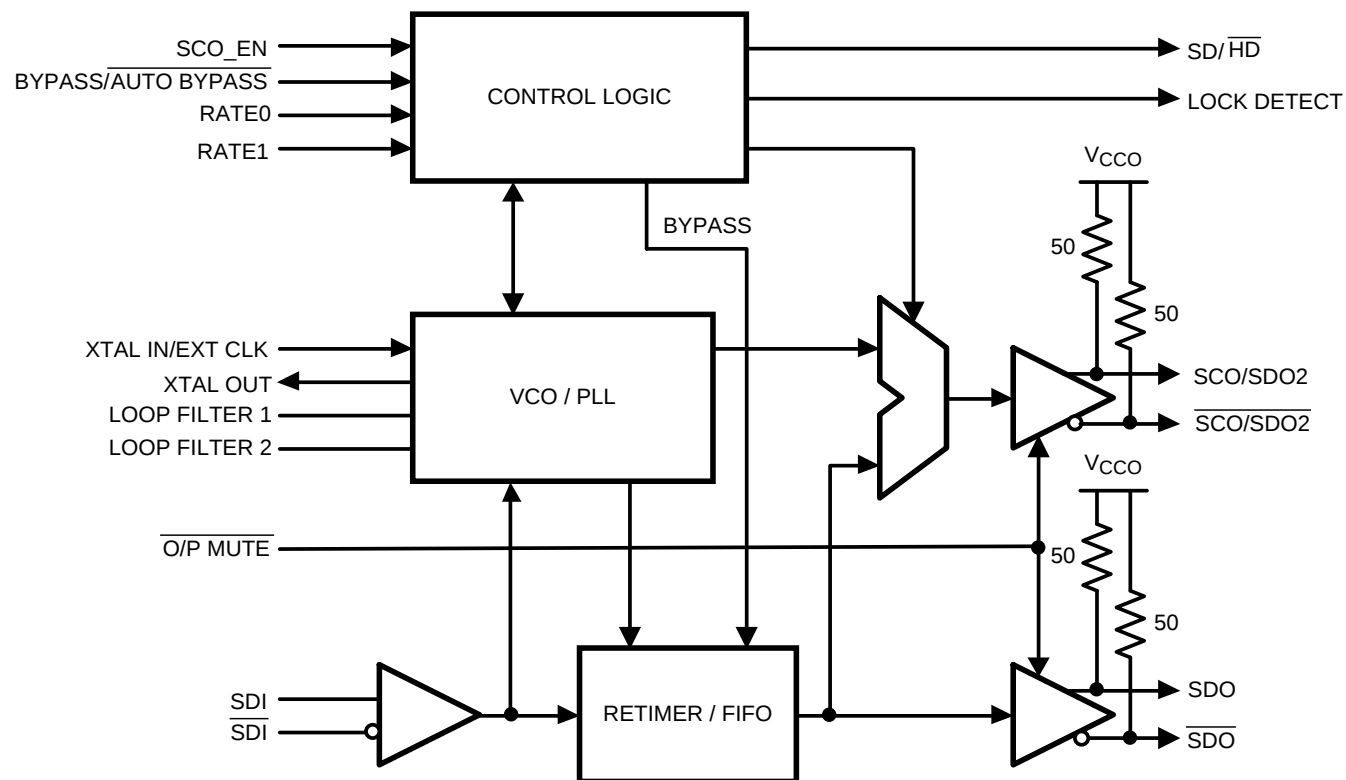

**Figure 1. 1.485 Gbps Signal Before Reclocking (0.75 UI Jitter)**
- (1) Typical values are stated for: VCC = +3.3V, TA = +25°C.
- (2) Peak-to-peak amplitude with sinusoidal modulation per SMPTE RP 184-1996 paragraph 4.1. The test data signal shall be color bars.
- (3) Refer to "A1" in Figure 1 of SMPTE RP 184-1996.
- (4) Characterized to the limitations of SDI test equipment.
- (5) This parameter is ensured by characterization over voltage and temperature limits.
- (6) Refer to "A2" in Figure 1 of SMPTE RP 184-1996.
- (7) Serial Data Output Jitter is total output jitter with 0.2 UIP-P input jitter.